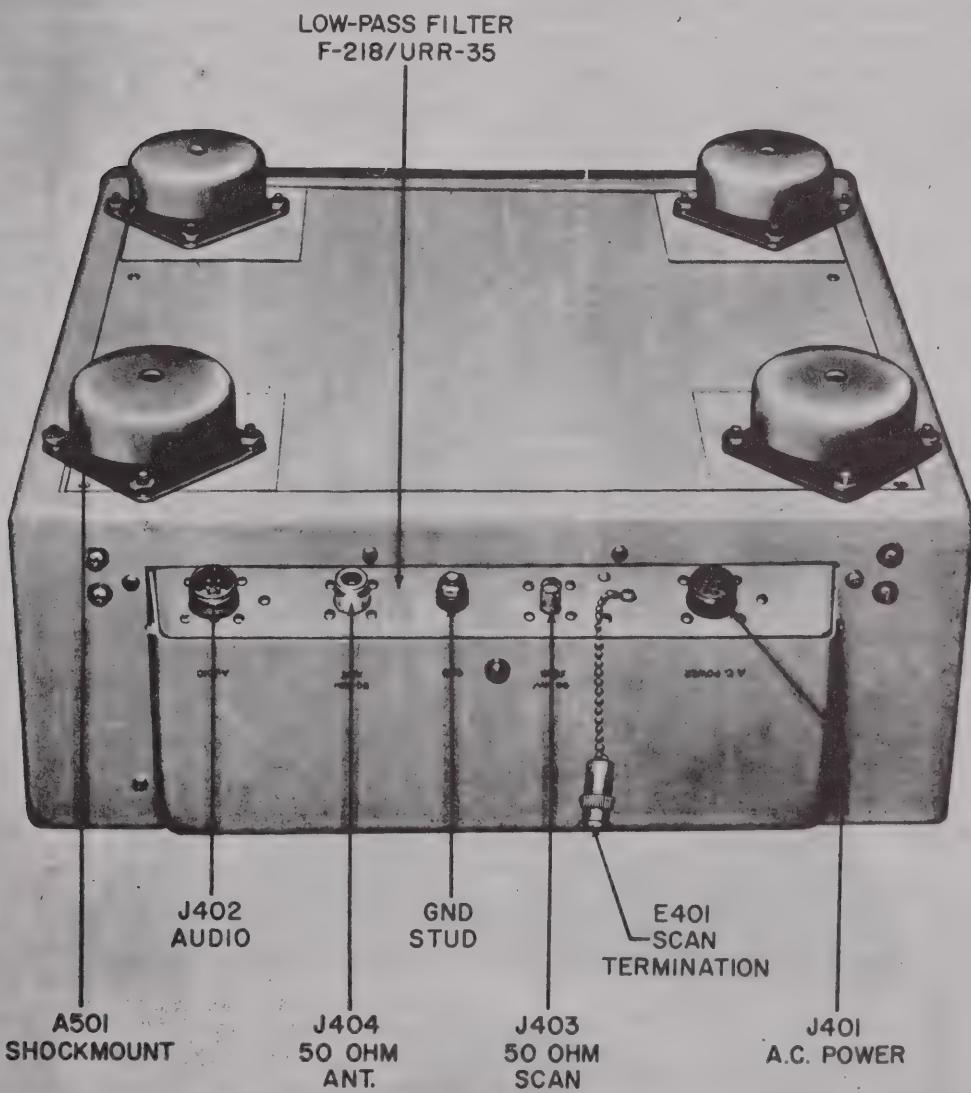

Figure 1-3. Radio Receiver R-482/URR-35, Rear View (Upside Down) Showing Low-Pass Filter F-218/URR-35
g. LOW-PASS FILTER F-218/URR-35.—The low-pass filter is shown in figure 1-3. It contains r-f noise-filter circuits for the audio output and power input circuits, and provides through connections from the receiver proper to the antenna input and scan-channel output circuit connectors. The filter parts are mounted on a base plate which is attached to the rear wall of the receiver cabinet by means of snap-slide fasteners located on the inside of the cabinet. The filter cover,
*When the scan channel is not in use, scan-channel termination E401 must be connected to the 50 OHM SCAN connector (J403); see figure 1-3. Mounted inside of the termination is a 47-ohm resistor which terminates the r-f cable between J403 and J201 in its approximate characteristic impedance, thus preventing radiation from this cable.